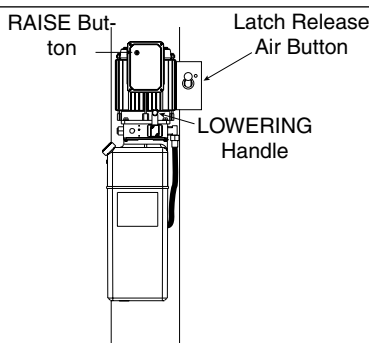

Fig. 2
- To Raise Lift:** Push the "RAISE" button on the power unit. Release button at desired height, Fig. 2.
- Actuate the latch release air button on power unit to disengage all four locking latches, Fig. 2. Hold button in until lift has fully lowered.
- Push the lowering handle on the power unit to lower lift, Fig. 2. Lowering speed can be controlled by the force applied to the lowering handle.